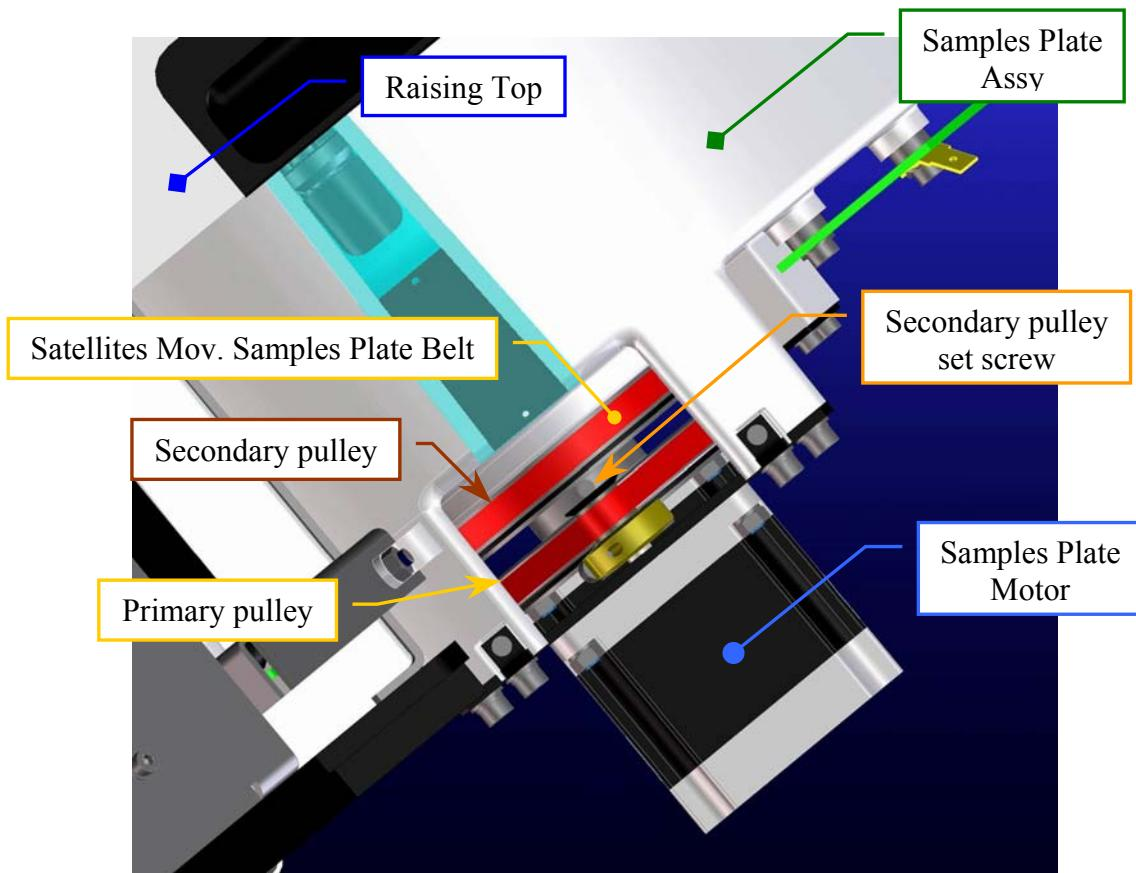

Fig. 95 – Secondary pulley of the Samples Plate Assy
- g. loosen the two set screws of the secondary pulley of the Samples Plate (**Fig. 95**);
- i. lever on the primary pulley with a flat head screwdriver in order to obtain that the secondary pulley is locked on the end of the run, and then tighten the two set screws of the secondary pulley of the Samples Plate (**Fig. 95**);